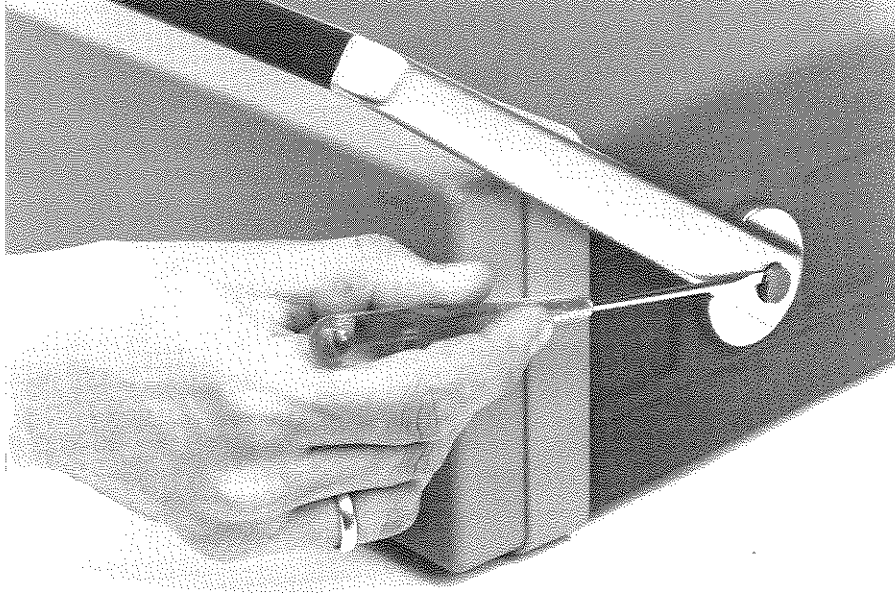

Fig. 3.19. Removing the carrying handle
The oscilloscope under test must be set in the following way to measure the voltage wave-forms as shown in Fig. 3.19:
- Prise off the centre knobs from each pivot, using a screwdriver (Fig. 3.19) in one of the small slots at the sides of the knobs.